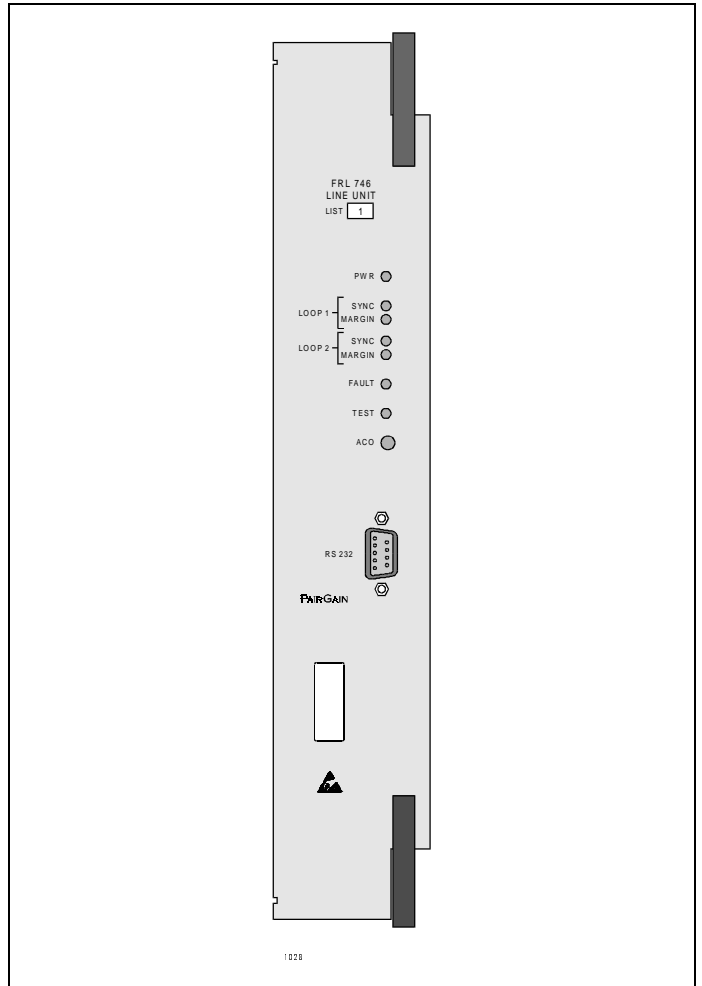

Figure 1. FRL-746 RT Line Unit, List 1, Front Panel. The PairGain FRL-746 is the remote end of a PG-Flex subscriber carrier system.
7.01 The front panel of the FRL-746 contains the following switch, indicators, and connector (see Figure 1):